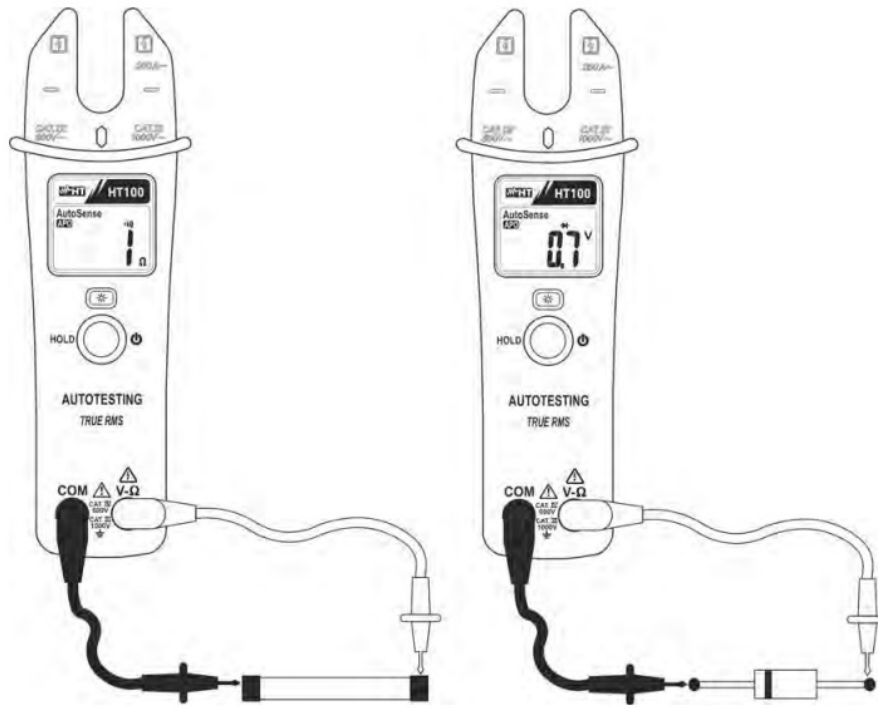

Fig. 6: Taking continuity test and diode test
1. Insert the red test lead plug into V-Ω jack and the black test lead plug into COM jack and perform continuity test on the object on test (see Fig. 6 – left side). The “ ” is shown at display. Buzzer emits sound if the measured resistance value is less about 25Ω
3. Connect the red test leads to the anode of diode on test and the black test lead on the cathode ones (see Fig. 6 – right side). The “  ” symbol is shown at display. The correspondent threshold voltage of P-N junction is showed on display